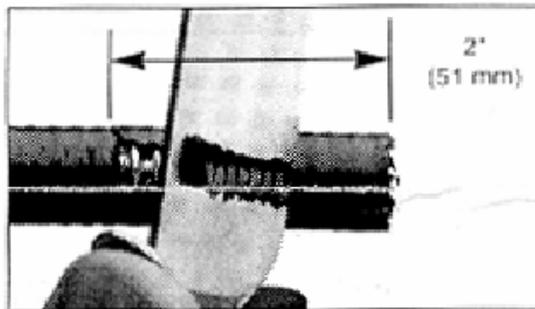

Figure C-10 Cutting cable skin
- 4) Cut the cable skin at 51mm away from the connector with the fast cable cutter and the safety knife, as shown in Figure C-10.